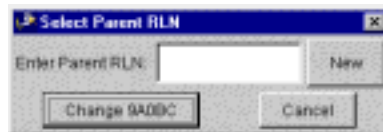

Figure 5.64 Select Parent RLN Window
4. Click the Set Parent RLN command. The Select Parent RLN window opens (Figure 5.64).